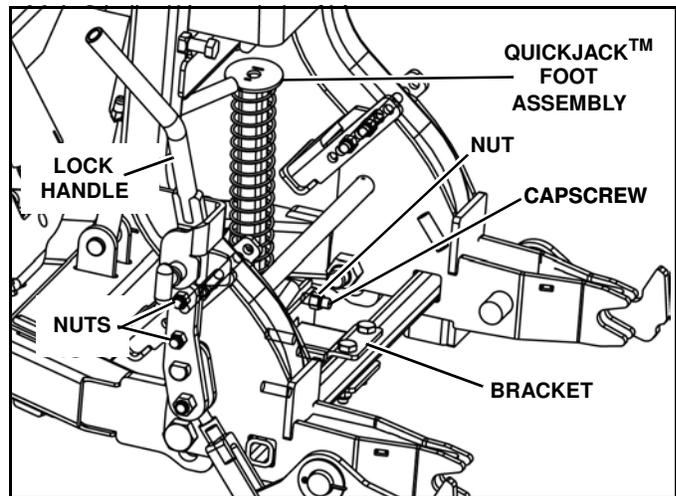

Figure 1-20
18. Install QuickJack™ foot assembly on bracket using four 1/2"-13 x 1-1/2" hex head cap screws and four 1/2"-13 lock nuts. (See Figure 1-20).
19. Install foot assembly with bracket to Lower Light Lift Bar using two 1/2"-13 x 3" hex head cap screws and two 1/2"-13 lock nuts. (See Figure 1-20).
20. Position the lock handle on the Lower Light Lift Bar linkage and secure with two 1/2"-13 x 1-3/4" cap screws and two 1/2"-13 lock nuts. (See Figure 1-20).